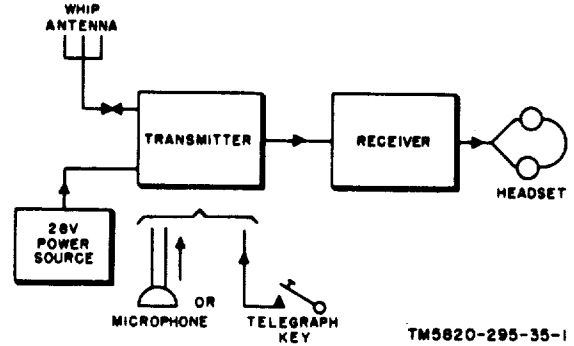
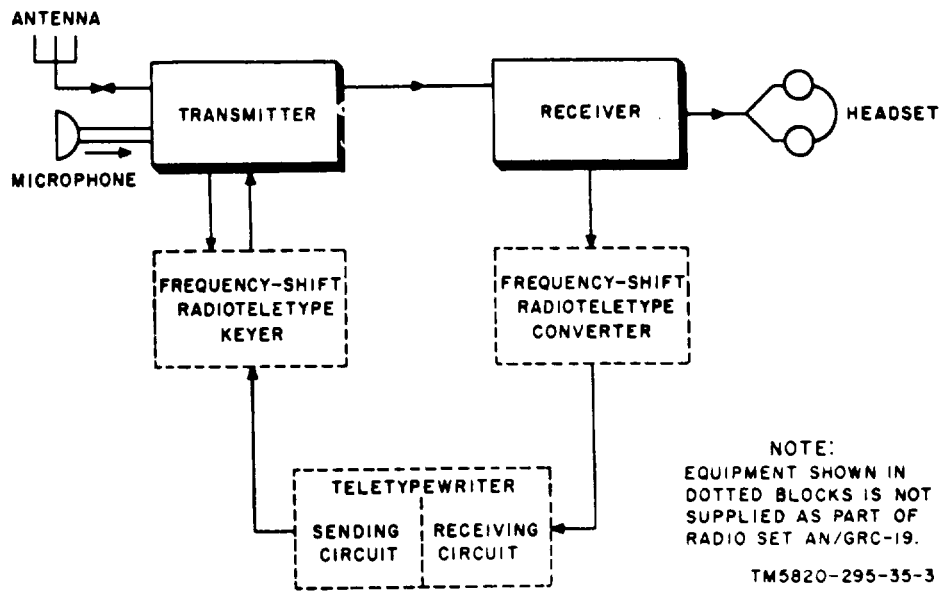

Figure 1. Radio set (using voice or cw service), simplified block diagram.
Figure 3. Voice and fsk service, simplified block diagram
a. During normal (simplex) operation (fig. 1 and 2), the transmitter is operated on a push-to-talk basis for voice service and the receiver is operative only when the transmitter is not being used. A single frequency and an antenna are used for both transmitting and receiving. For cw service, the transmitter is operated by the telegraph key. For fsk service (fig. 3), the transmitter is activated by the teletypewriter equipment. (The teletypewriter equipment is not supplied as part of Radio Set AN/GRC-19.) For simultaneous voice and fsk service (fig. 3), the transmitter is operated on either a push-to-